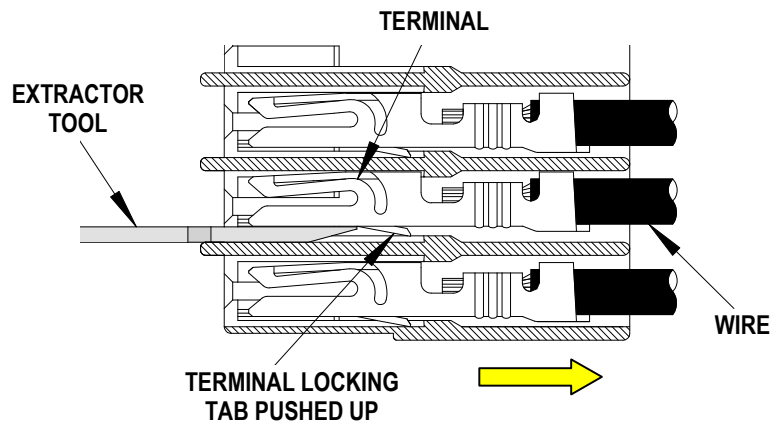

Figure 20
8. Pull the wire and terminal back through the Connector slot in the arrow direction as shown. See Figure 20.